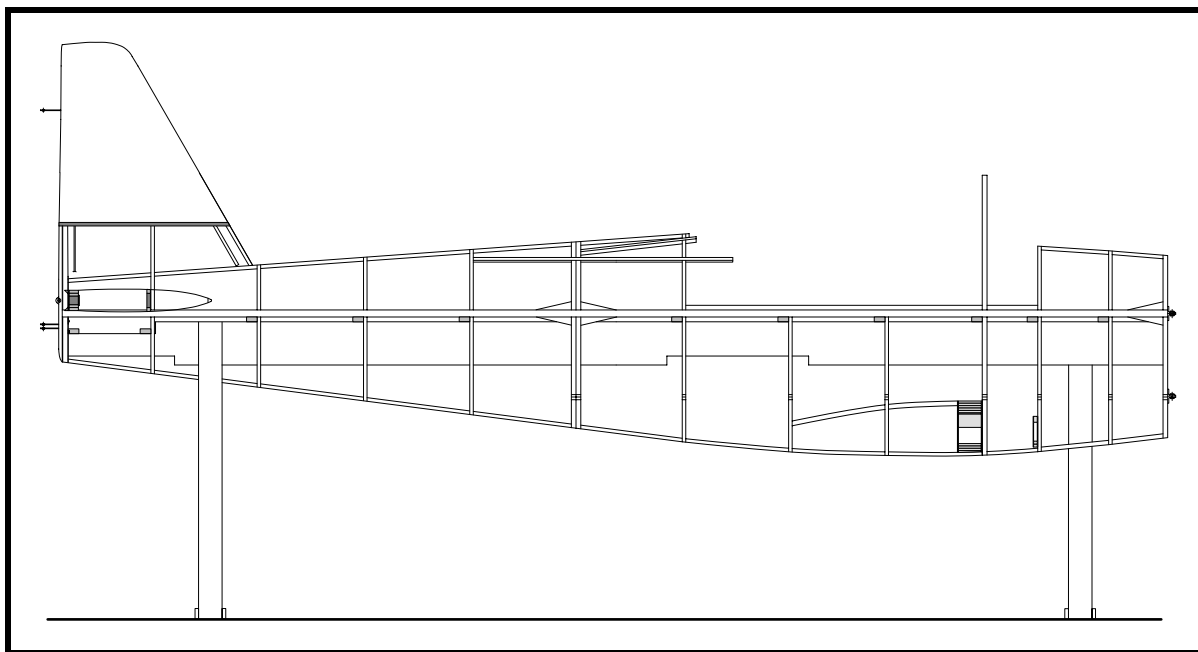

Figure 27
- ❑ Fit and glue the two 35x150 corner blocks for the right side longeron at the aft face of frame No. 8. See Figure 27.